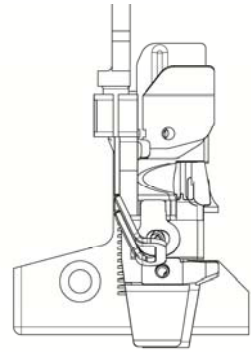

Fig.1
(2) Before operating the machine
- Before starting the machine, make sure that the presser foot is positioned correctly(turn the machine pulley slowly by hand to see if the needle point is centered in the needle drop hole on the presser)(Fig.1)